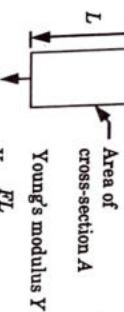

Fig. 4.16.1. Axially loaded member
- Consider an axially loaded elastic element as shown in Fig. 4.16.1, under the action of force  $F$ , it undergoes deflection of  $FL/AE$ .